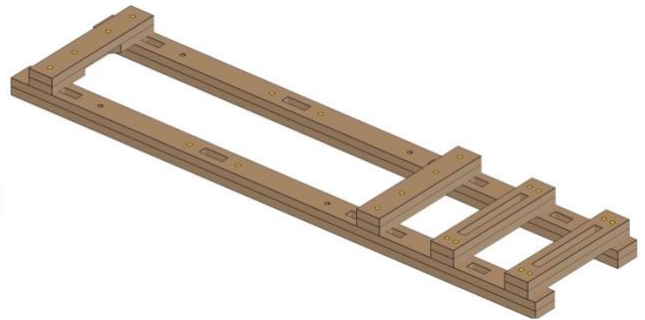

Fig. 14
- Fig. 14 shows the completed process.